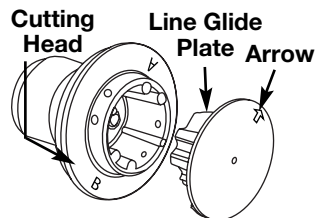

Fig. 7
3. Reinstall line glide plate (Fig. 7). Align arrow with: